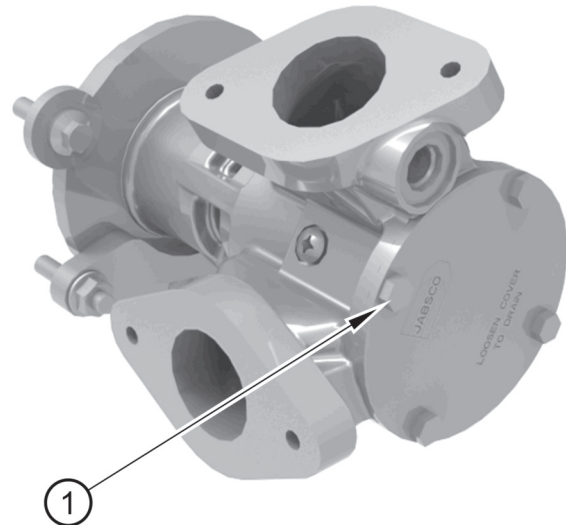

Figure 11
2. Release the four bolts (figure 11 items 1) which fasten the end plate of the auxiliary water pump and remove the plate. When the end plate of the auxiliary water pump is removed, some auxiliary water will flow from the pump.